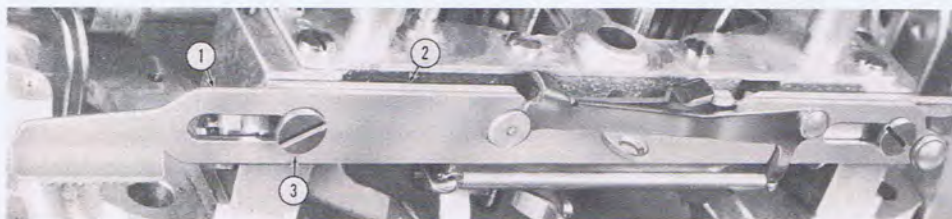

FIGURE 75
44. Center Slides (DS) (Figure 75)